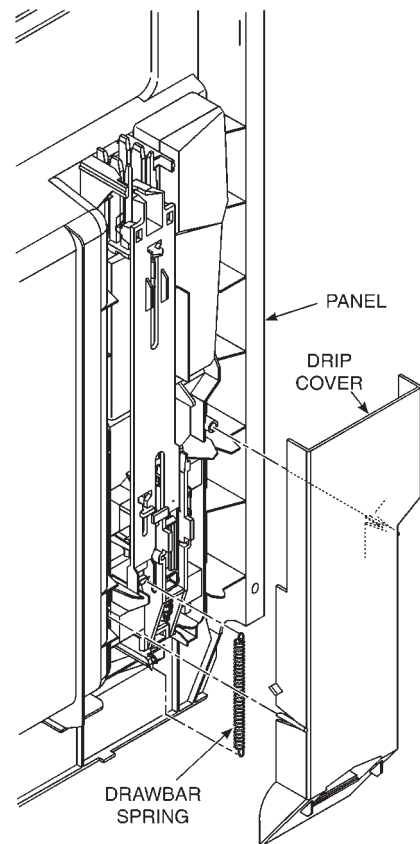

Fig. 3-10
1. Remove the drawbar spring. (Fig. 3-10)
11. Install the drawbar spring and snap the drip cover into place. (*Fig. 3-10*)